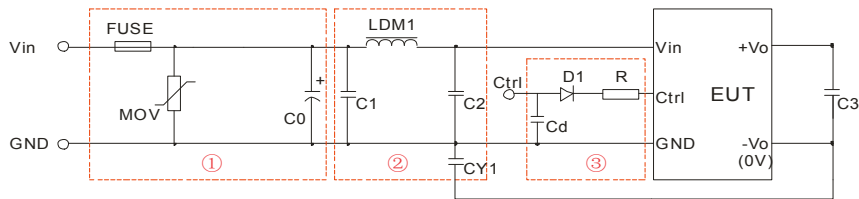

Fig. 3
- ① Part ① in Fig. 3 is used for EMS test while part ② is used for EMI filtering; and parts ① and ② may be selected based on needs.
- ② Vc is the voltage of the Ctrl end relative to the GND of the input grounding; Vd is the positive-going conduction pressure of D1; Ic is the current flows into the Ctrl end and its value is generally 5-10mA, see Fig. 3-③ for the peripheral circuit of Ctrl end;
- ③ If there is no recommended parameters, no external component is required.